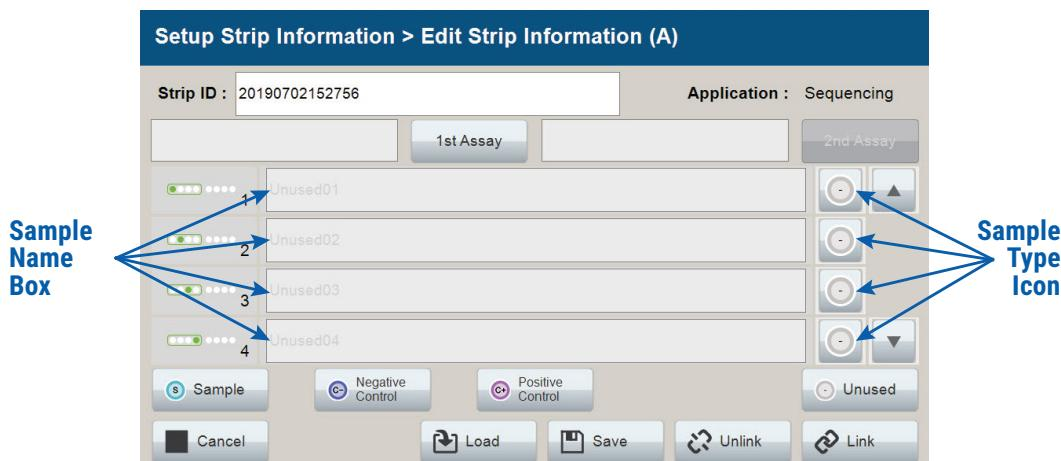

Figure 82. 'Edit Strip Information' screen.
- b. The 'Setup Strip Information' screen is divided into two sections: Sample Information and Strip ID. You can enter sample names for samples in a strip by selecting the icon indicating the lane (A, B, C or D), which corresponds to your samples' strip position within the sample cartridge. This opens the 'Edit Strip Information' screen (Figure 82) for the selected lane.
After selecting the desired lane (A, B, C or D) on the 'Setup Strip Information' screen (Figure 81), the 'Edit Strip Information' screen (Figure 82) displays fields for defining the Strip ID, run assay, sample name and sample type for that lane. Each well in the strip is represented along the left side of the screen. The first injection set of the strip (wells 1–4) is displayed on the screen. You can use the arrows on the right side of the screen to scroll to the second injection set (wells 5–8). Strip Information can be manually entered into this screen as described below or loaded/imported from saved records (see Sections 5.3.2–5.3.4).